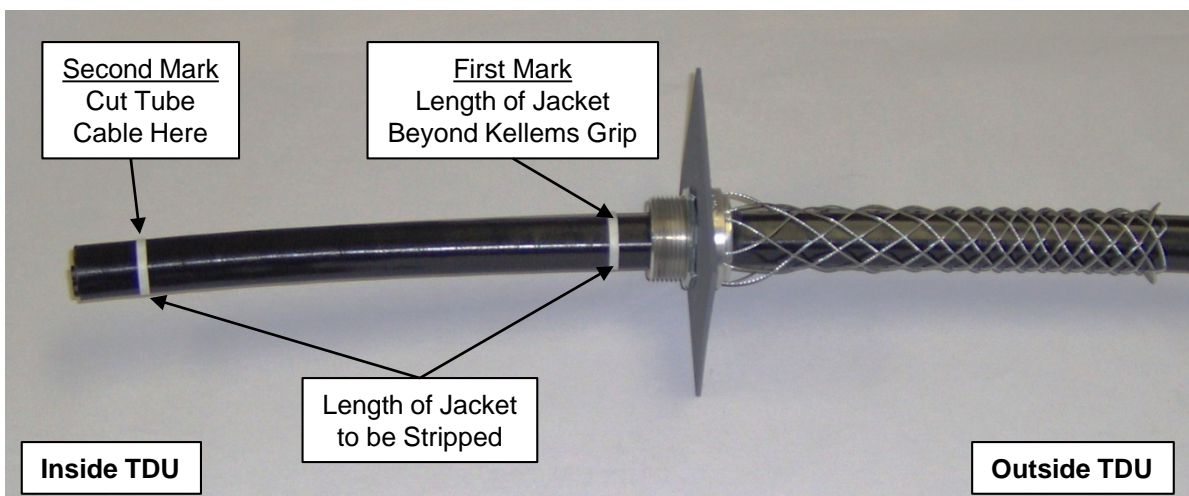

Figure 3
7.5.1 Make first mark about 1" beyond threaded end of Grip body. **See Fig. 3.**